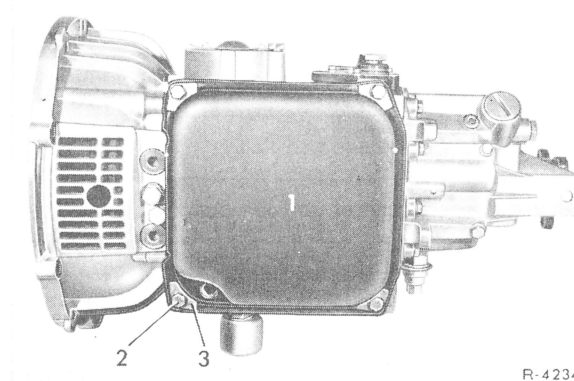

Fig. 1
Remove oil pan after loosening the four fastening bolts (2) including gasket and shims (3) (Fig. 1).